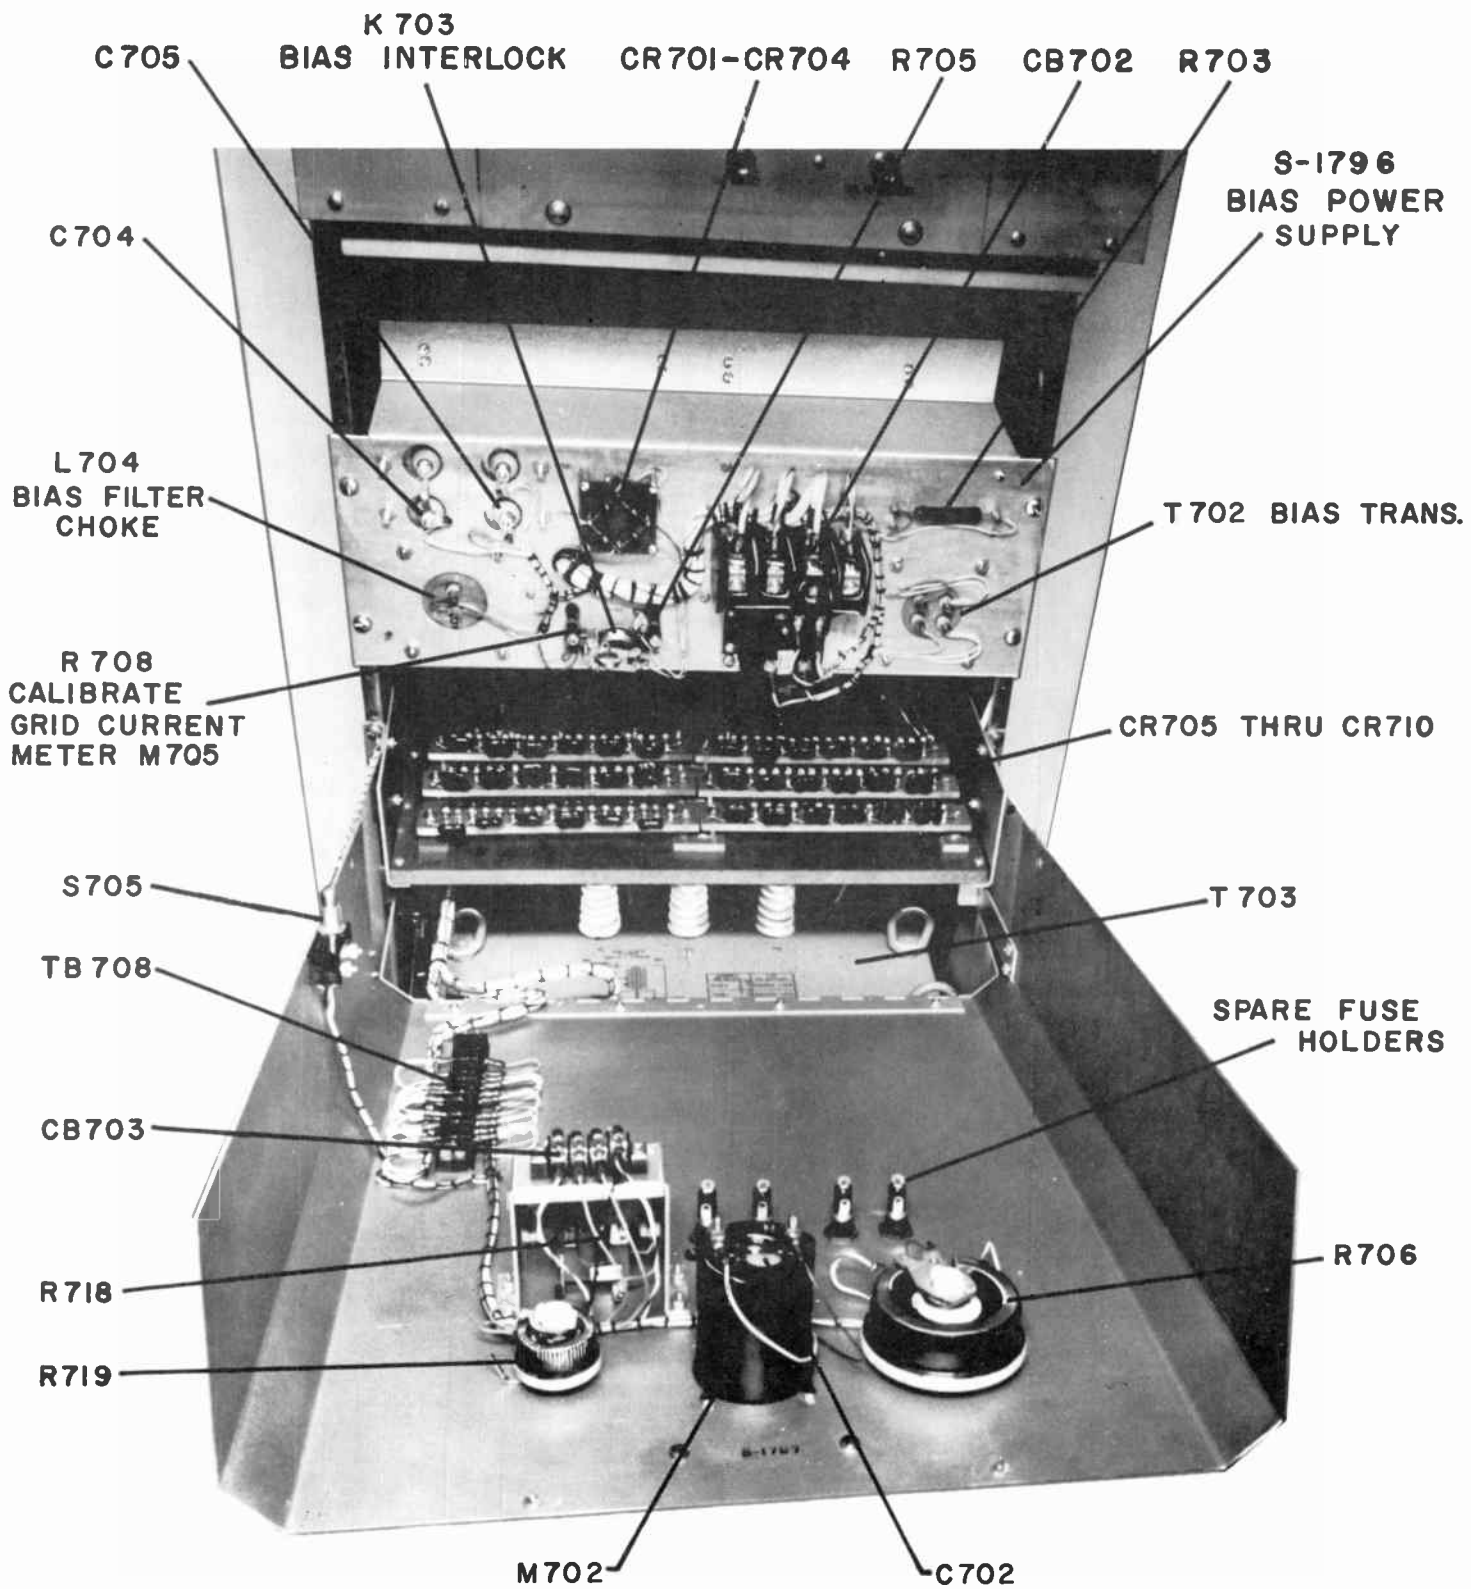

FIG. 5-3 TYPE 938 F.M. 5KW AMPLIFIER, ACCESSORY PANEL S-1797 LOWERED
- 4-17. The high voltage power supply, see Fig. 5-3 and 5-8, furnishes 5300 volts at up to 2 amperes. The power supply utilizes 108 silicon diodes mounted on six phenolic strips with eighteen per strip. The strips are mounted in place by means of banana plugs and jacks, to permit rapid replacement of a rectifier leg. These diodes and transformer T703 are connected in a three phase full wave delta - delta configuration with a choke input type filter consisting of L705 and C711.